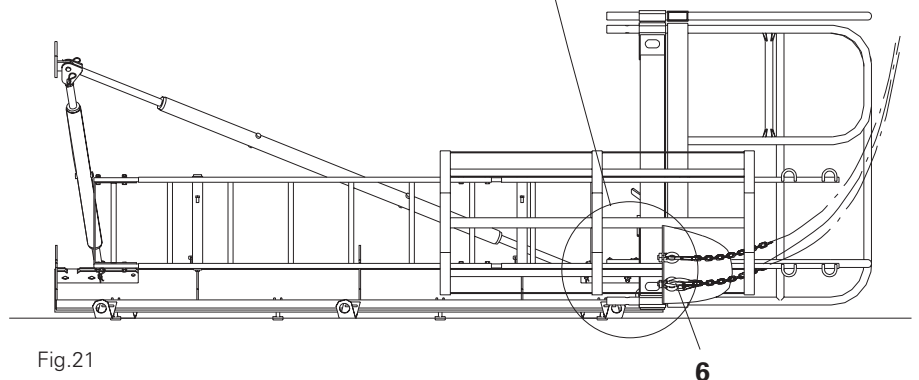

Fig.21
1. Attach 3-sling lifting gear to eyebolts **6**. Fig.21